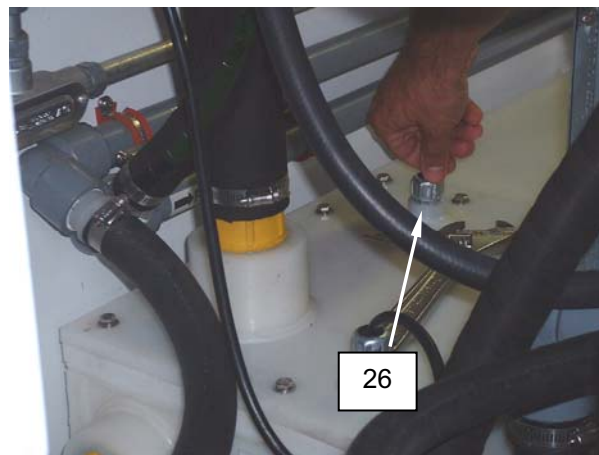

Figure 20. Drain System.
23. Monitor the sight glasses (**Figure 20, Item 24**) on the reuse, WTS, and nanofilter holding tanks. When the tanks have drained, open the drain petcocks (**Figure 20, Item 25**) on the sight glasses.
24. Manually pump the waste tank (**Figure 20, Item 26**) by pulling up and holding the knob until tank is completely empty (approximately 30-45 sec). The knob is on top of the waste tank. Ensure the knob is returned to original position after use.